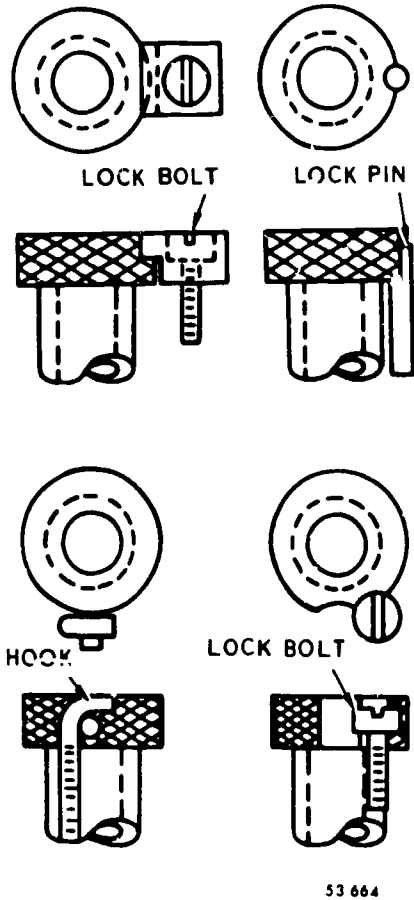

Figure 1-10 Bushing clamps
**Types of Jig Bushings.** Jig bushings are made of hardened steel. You must fabricate the bushing as well as the jig. These five main types of jig bushings are our topic here: (1) press fit, (2) fixed renewable, (3) slip renewable, (4) screw, and (5) special.
**Press fit.** Press-fit bushings are permanently pressed into position. Used only for limited production, they are put into simple jigs that are employed for just one machining operation, such as drilling. Two types of press-fit bushings exist: (1) plain and (2) shoulder. Plain bushings can be set closer together than can shoulder bushings. It is better to use them when their location in a jig requires a flush surface or when the holes in the jig plate are closely spaced. However, shoulder bushings are better for general use because there is less danger of their becoming dislodged by the cutting tools.
**Slip renewable.** The slip-renewable bushing also fits a sleeve. It makes possible the drilling of several holes, because it can be moved from hole to hole. Also, bushings of different sizes can be used in the same sleeve to facilitate drilling, reaming, and boring. This type of bushing must be clamped to keep it from rotating with the drill or cutting tool and from rising from the sleeve. Many ways can be used to clamp a bushing in place, as shown in figure 1-10.